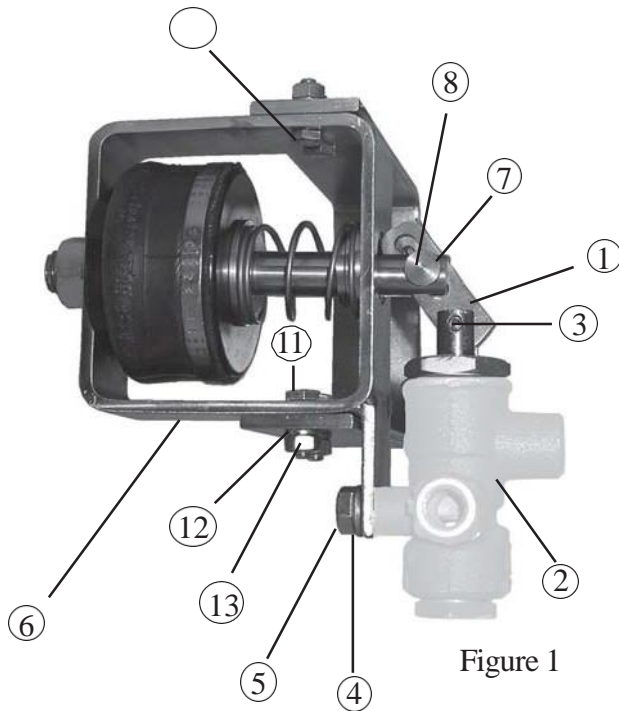

Figure 1
Install ME710 linkage (1) onto RegO® A7853A control valve (2) with rounded corner facing the valve pin. Attach linkage (1) to the control valve (2) using new roll pin (3) included in the installation kit. Assemble 3/8" lock washers (4) onto 3/8"-16 bolts (5) provided and install RegO® A7853A control valve (2) onto actuator bracket (6) as shown in Figure 1. Tighten the two bolts (5) to 25-30 inch pounds torque. Position linkage (1) into actuator piston slot (7). Install linkage retaining pin (8) through actuator piston (7) and valve linkage (1). Install the cotter pin (9) through the linkage retaining pin (8) to retain in place. Determine desired mounting position for the actuator assembly. The mounting bracket (10) is universal for right or left hand installation. Attach mounting bracket (10) to actuator body (6) in desired position using 1/4"-20 bolts (11), 1/4" lock washers (12) and 1/4"-20 nuts (13) provided in installation kit.
Install mounting bracket bolts (11) with the head on the inside of the main actuator bracket (6) as shown in Figure 1 to ensure proper clearance for the actuator. Install 1/4" lock washers (12) on the outside of the mounting bracket/actuator assembly prior to installing the 1/4"-20 nuts (13). Tighten the four connecting points to 25 - 30 inch pounds torque. This completes the actuator assembly.